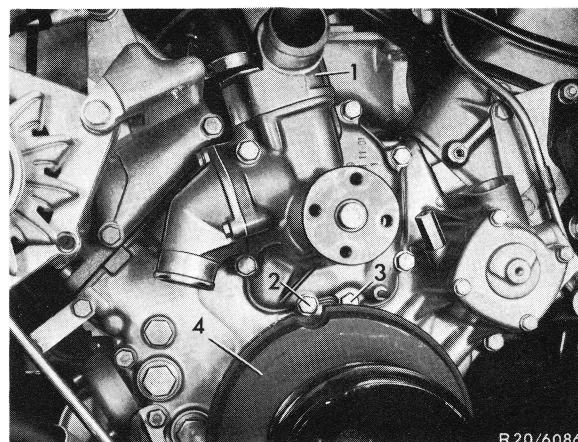

Fig. 1
- 7** Unscrew inlet connection (1) from water pump (Fig. 1).
- 9** Turn vibration damper (4) when removing and installing water pump in such a manner that the recess exposes each time one of the lower fastening bolts (2 and 3).